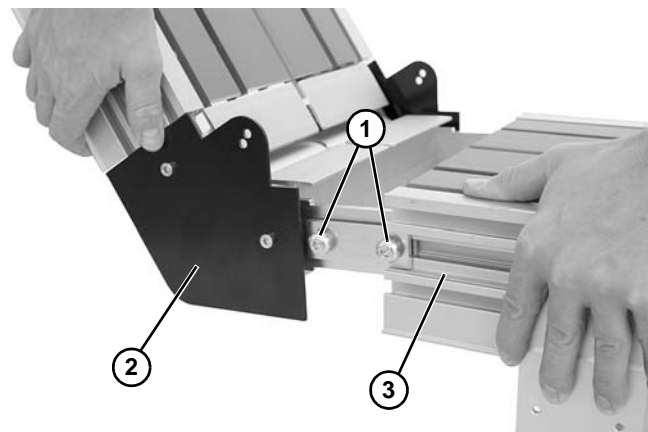

Figure 12
1. Roll out conveyor belt. Loosen (4) bolts (**Figure 12, item 1**) on both sides of knuckle (**Figure 12, item 2**). Slide frame (**Figure 12, item 3**) into knuckle (**Figure 12, item 2**). Tighten bolts (**Figure 12, item 1**) to 60 in-lb (7 N-m) on both sides of conveyor.